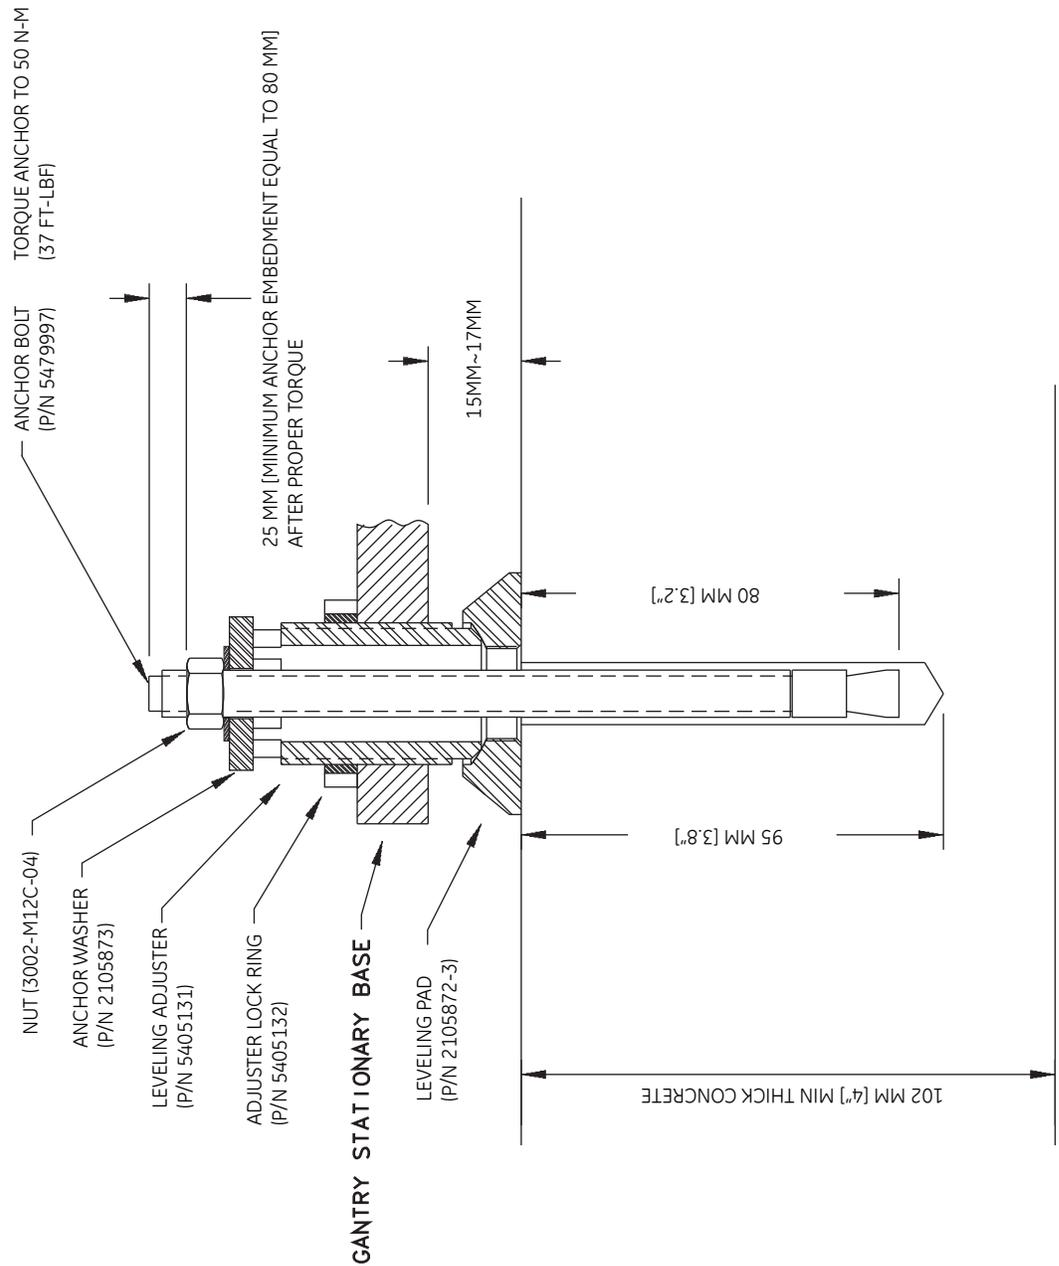

Figure 8-4 Typical Floor Anchor, Gantry
Table 8-3 lists the specifications of GE-supplied anchors for the system. For a detailed view, including dimensions and additional specifications, see Figure 8-4 and Figure 8-5 of this section.
- Any anchors showing more than 21 mm (~0.9 in.) of thread above the torqued nut requires the installation of a second anchor in the closest adjacent mounting location. The second anchor shall meet the same requirements in Figure 8-4.
- Non-seismic installations must use a minimum of four (4) anchors to mount the gantry and four (4) anchors to mount the table.